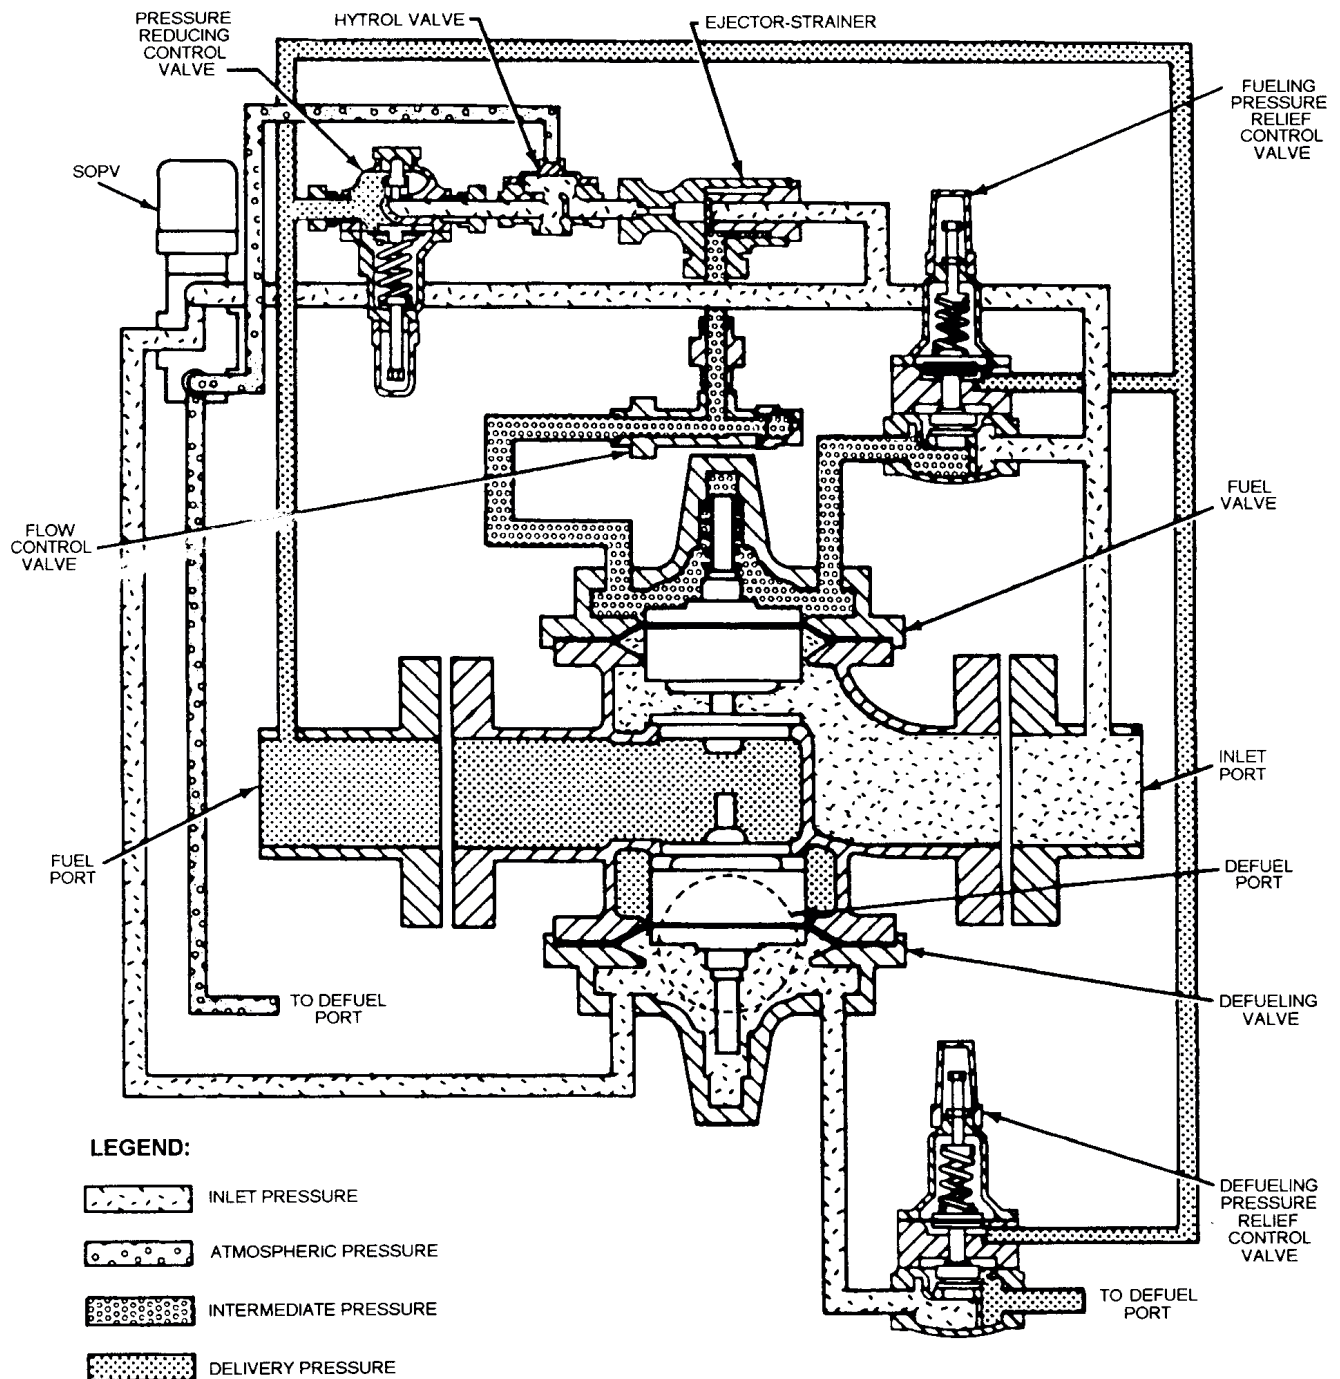

Figure 3-10.—CLA-VAL fueling operation.
A step-by-step analysis of the valve's operation is as follows. Figure 3-10 shows the valve in the fueling position.
7. Figure 3-10 shows that delivery pressure is reflected under the diaphragm of both pressure-relief control valves, opposing the force applied by the spring. When a downstream pressure rise occurs that is sufficiently high to overcome the force of the spring,